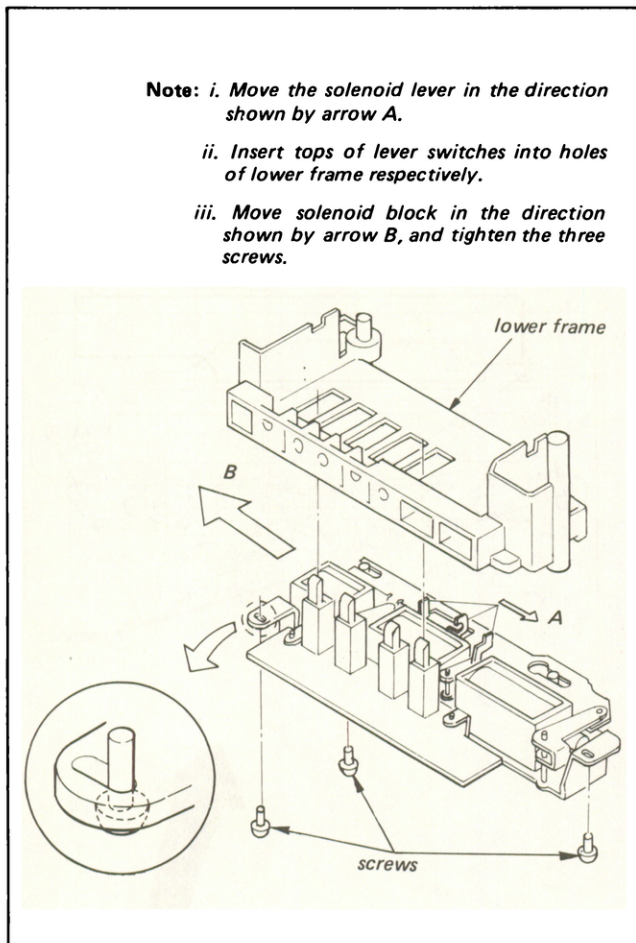

Fig. 3-67.
5. Note the three points stated in Fig. 3-67 for mounting the solenoid on the drum base.